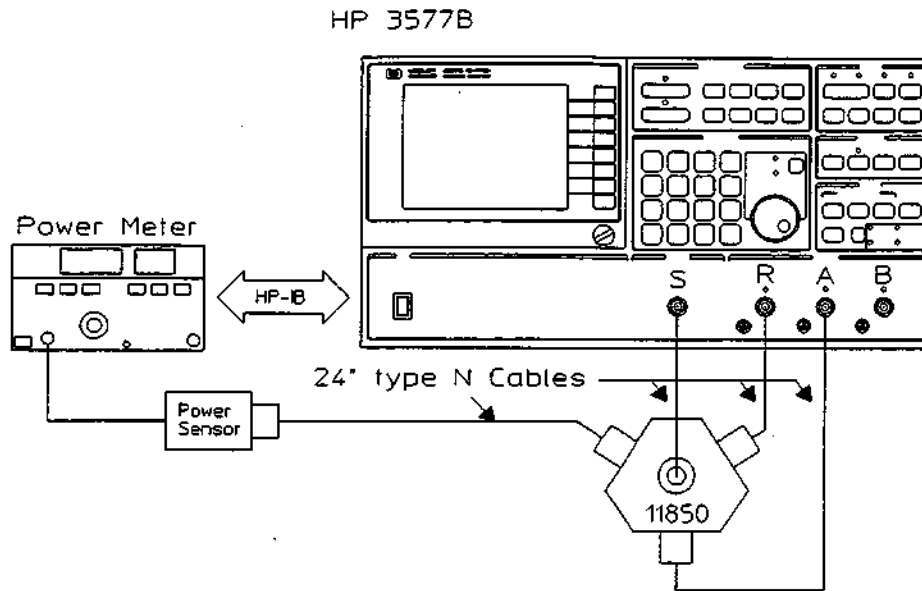

Figure 5-3. Input Level Calibration Test Set-up
- c. Connect the equipment as shown in figure 5-3.